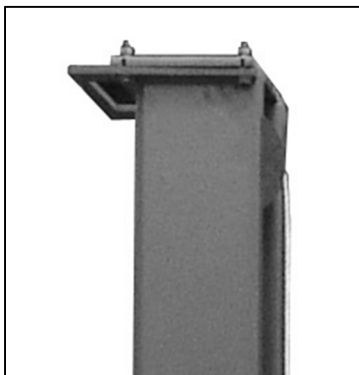

Fig. 5
2. Ensure Top Cap is pre-installed to the top of the Main column **(Fig. 5)**. Raise the column to a vertical position **(Fig. 6)**.